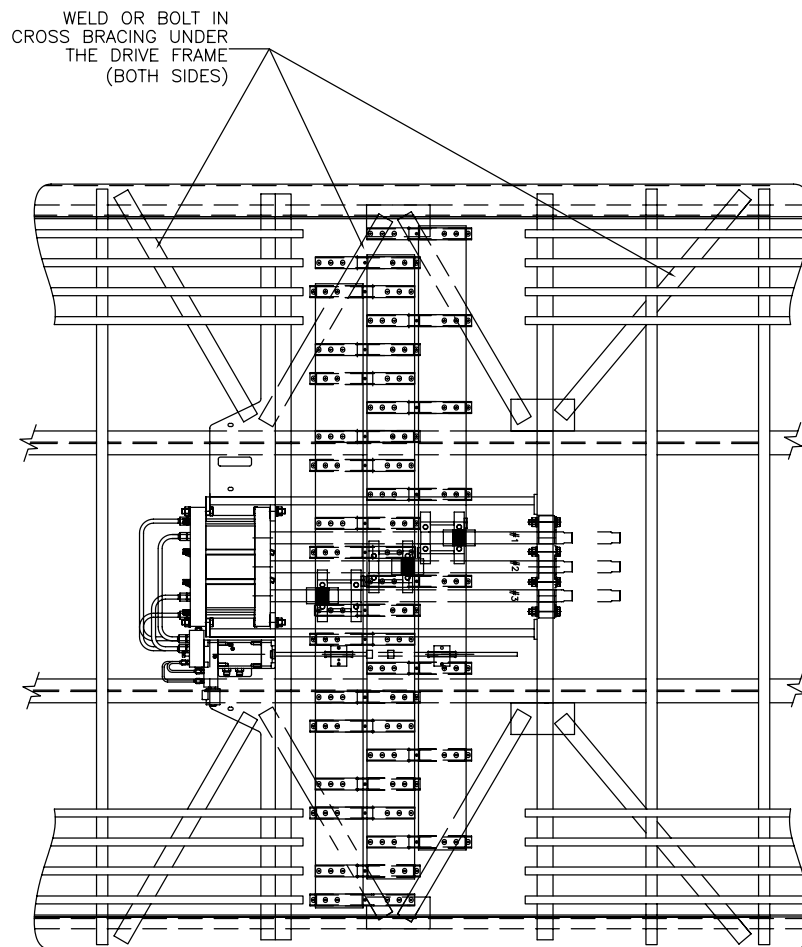

Figure 25
4. Weld or bolt cross bracing to side rails (Figure 25). Note that it is easier to install the flooring if the cross bracing is installed after the flooring. Keep in mind that the paint will have to be touched up afterward if this option is chosen.